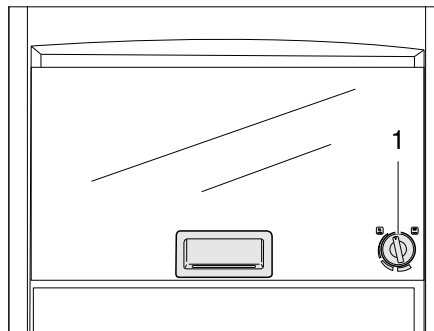

Fig. 325 Gas oven (Dometic)
- Gently press the control knob (Fig. 325,1) and turn left to any position.
- Turn the control knob (Fig. 325,1) to "O". The flame fades.